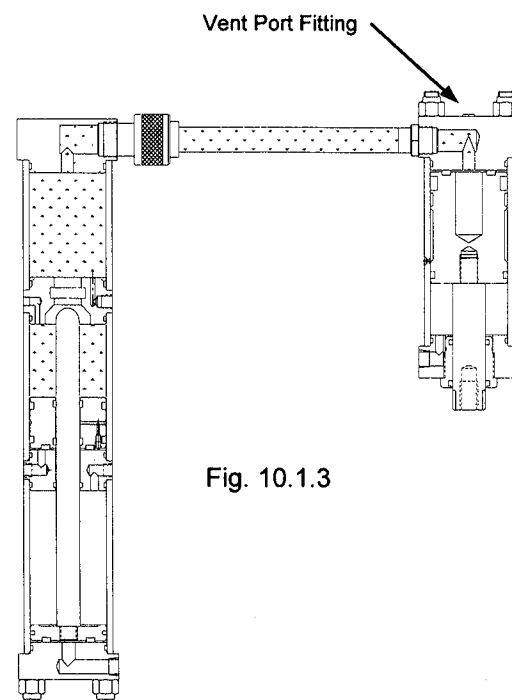

Fig. 10.1.3
1. Position the booster/reservoir unit and working cylinder vertically as shown in Fig. 10.1.3. The Vent Port Fitting located on the cap end of the work cylinder must be at a greater or equal height then the booster/reservoir unit.